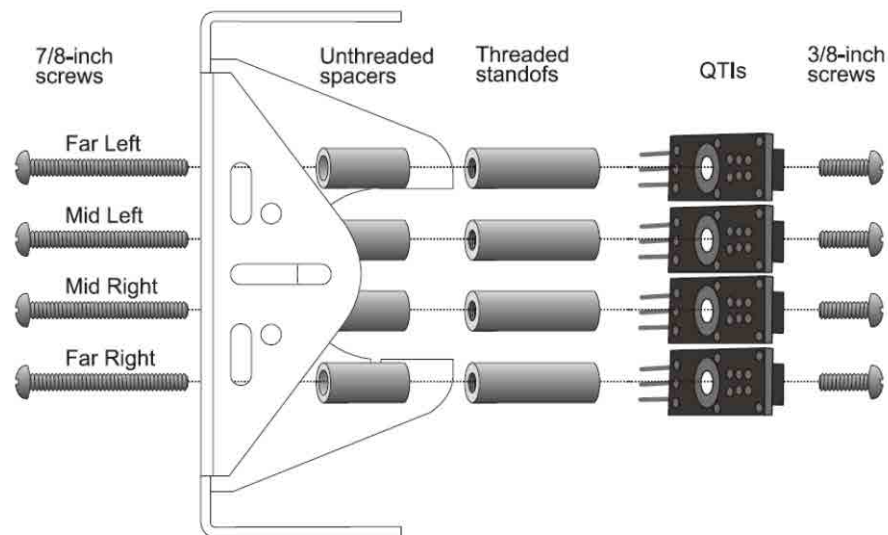

Figure 1 – Mechanical Assembly
2. Referring to Figure 1, insert the 7/8-inch screws through the top of the small robot chassis, at the three slots near the front. Two screws will go through the center slot, and one screw each in the right and left slots.